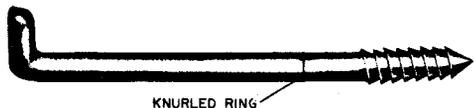

Fig. 1—Pole Step
2.01 Figure 1 illustrates a pole step (permanent type).